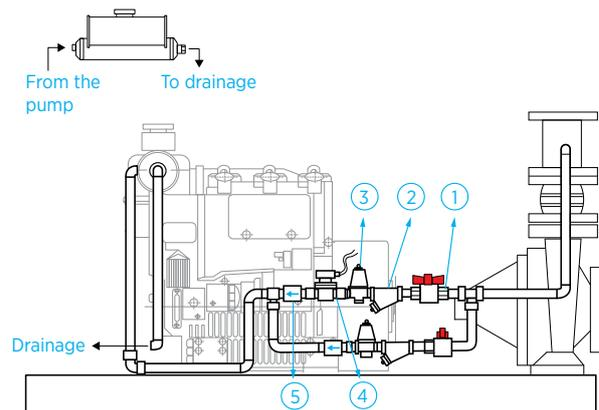

Figure 22
A heat exchanger with a capacity suitable for water-to-water cooling system should be picked. Picked exchanger should be able to prepare cooling water which would seamlessly cool the diesel pump when operating at full capacity. A pressure dropper (3) should be put in the circuit and the pressure should be prevented to increase over 10 bar in order to block any exchanger damage. A bypass line should definitely put within the assembly established between the diesel motor and exchanger. In case of any problem with the main line, the bypass line should be opened manually. Electrical solenoid valve (4) put in the circuit should be opened upon main pump enabling. Solenoid valve opening should be monitored with the signal lamp and on the panel in the main panel room. (Figure 22)